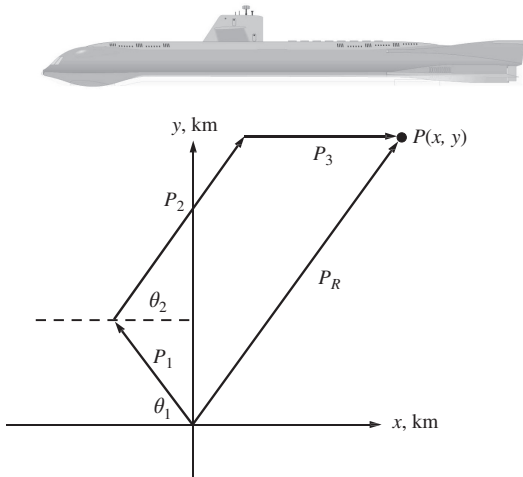

Figure P4.15 Position of a stealth submarine.
- 4-15.** A stealth submarine plots a course through an underwater valley with three separate position vectors, as shown in Fig. P4.15. It first travels $P_1 = 5$ km 60° north of west in the first leg, $P_2 = 8$ km 60° north of east in the second leg, and $P_3 = 7$ km straight east in the third leg.
- (a) Using the positive x - y coordinate system shown in Fig. P4.15, write all three position vectors in rectangular form (i.e., in terms of unit vectors \hat{i} and \hat{j}).